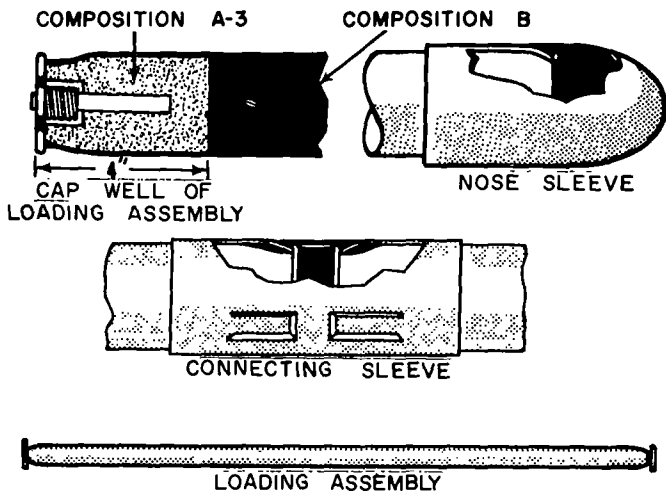

Figure 96. Components of M1A2 bangalore torpedo.
- (2) *Uses.* In addition to cratering, this charge can also be used in ditching and quarrying.
- (3) *Detonation.* The cratering charge can be exploded by the special blasting cap, electric or nonelectric, or by detonating cord. However, due to frequency of misfires it is recommended that a separate primer consisting of a 1-pound charge be placed on top of the container in each hole.
g. Bangalore Torpedo. The bangalore torpedo (fig. 96) consists of a series of assemblies which can be used separately or in a series by connecting them together with a connecting sleeve. In joining two or more assemblies, a nose sleeve is used on the front end of the torpedo to help push the torpedo through entanglements and across the ground. Any length of pipe with approximately a 2-inch inside diameter and a wall thickness of at least 0.025 inch (24 gage) can be made into an expedient bangalore torpedo by packing it with about 2 pounds of explosives per linear foot and providing suitable priming means.